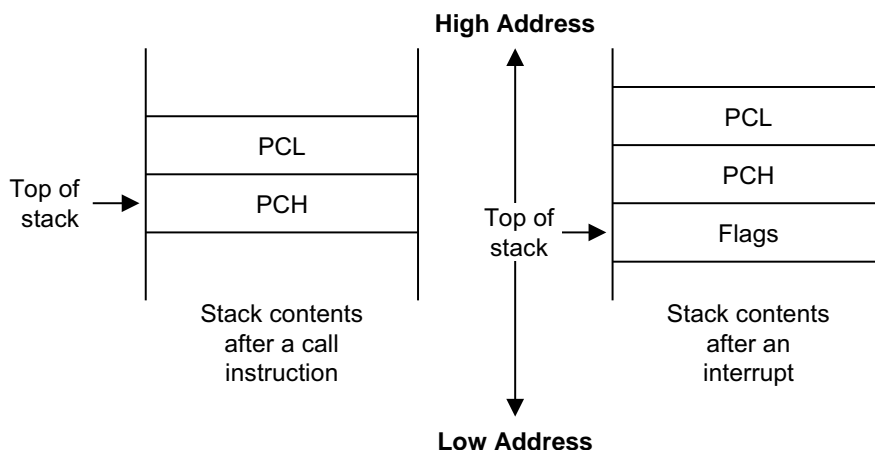

Figure 28. Stack Operations
Return addresses for procedure calls, interrupts, and data are stored on the stack. The contents of the PC are saved to stack by a CALL instruction and restored by the RET instruction. When an interrupt occurs, the contents of the PC and theFlags registers are pushed to the stack. The IRET instruction then pops these values back to their original locations. The stack address value is always decreased by one before a push operation and increased by one after a pop operation. The stack pointer (SP) always points to the stack frame stored on the top of the stack, as shown in Figure 28.